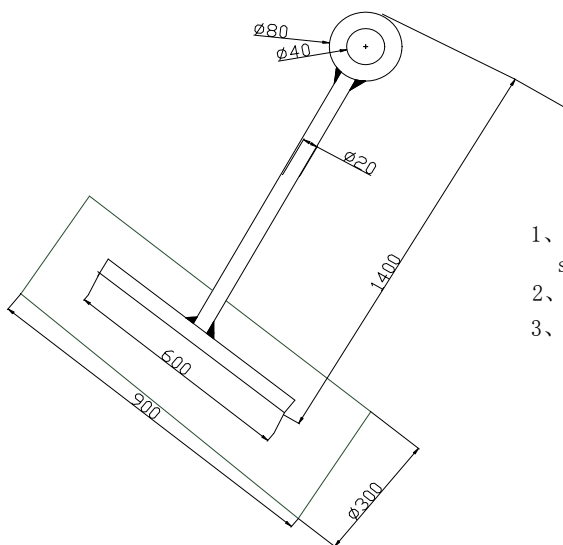

Figure2
4. The making and size of the upper tower is shown in figure 2. Its requirement: solid welding; no leak at the weld zone; the earth lug must be welded 20cm away from the ground (clearly visible). It will be connected to the lightning grounding device.
## **figure 2 wind turbine flange connection in the top of tower**